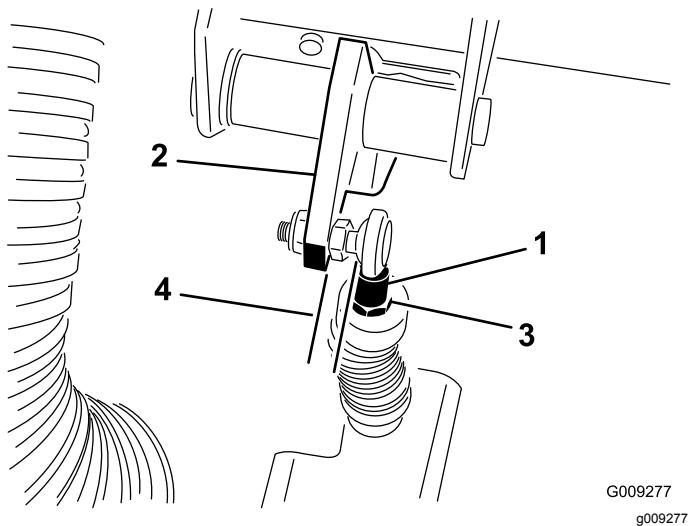

Figure 61
**Important:** Ensure that the rod end is positioned squarely on the ball, not twisted, and remains parallel to the clutch pedal after the jam nut is tightened (Figure 61).